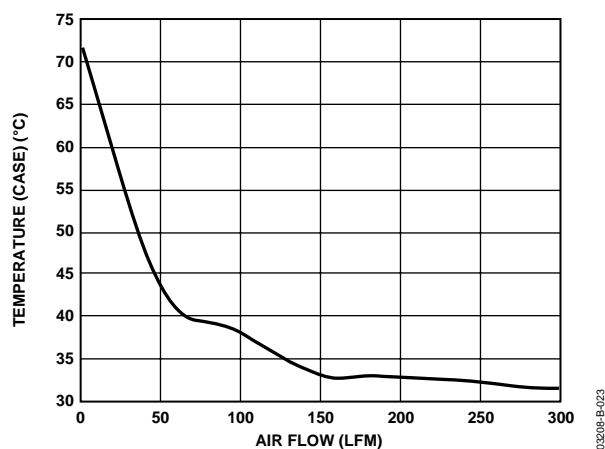

Figure 15. Temperature (Case) vs. Air Flow (Ambient)
- The unit rises to ~72°C (T_C) on the heat sink in still air (0 linear feet per minute (LFM)). The minimum recommended air flow is 100 linear feet per minute (LFM) in either direction across the heat sink is (see Figure 15).